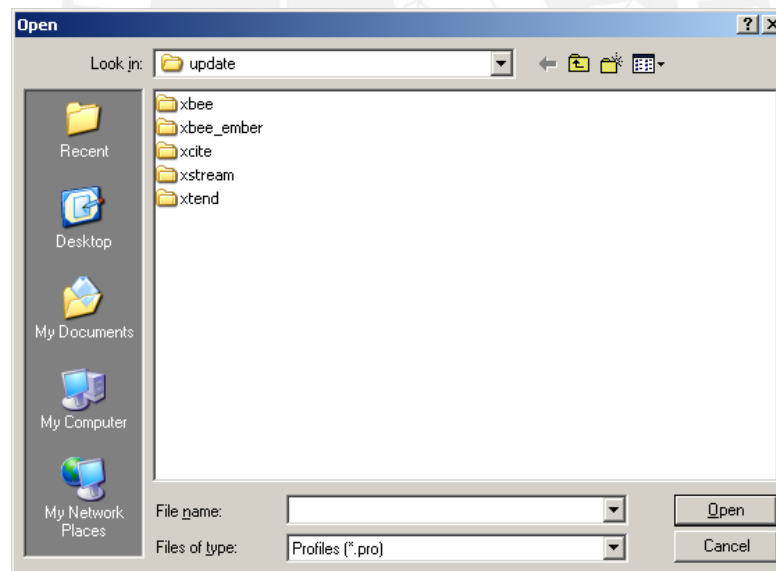

Figure 15
- 2: Browse to the location of the file and click on the desired file (see Figure 15)